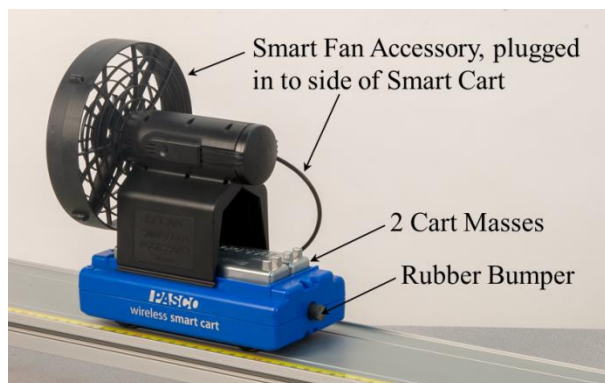

Figure 2: Cart with Bumper, Masses, and Fan
3. As shown in Figure 2, attach the Rubber Bumper to the front of the Smart Cart.
4. Place the two Cart Masses in the cart bed. See Figure 2.
5. As shown in Figure 2, attach the Smart Fan Accessory to the Smart Cart so the fan is facing end of the Smart Cart opposite the Rubber Bumper. Plug the cable from the fan into the side of the cart.